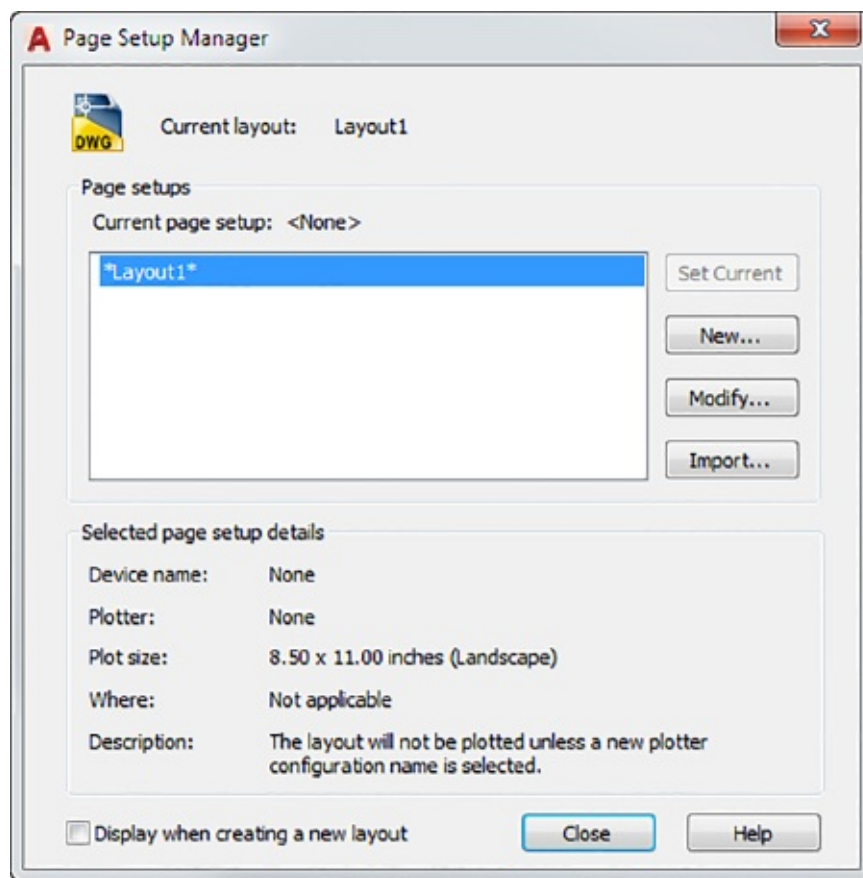

FIGURE 15.5 The Page Setup Manager
2. Right-click the Layout1 tab, and choose Page Setup Manager to open the resizable Page Setup Manager dialog box. Notice that the name of the current layout is shown in the list of current page setups (see Figure 15.5).